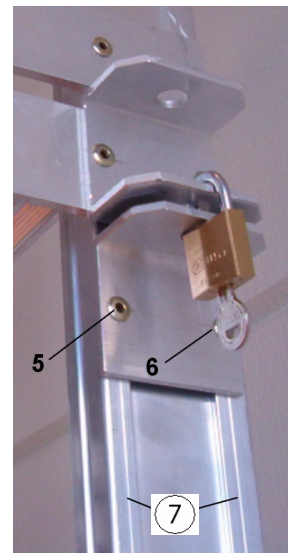

Figure 4
- Close the hoop lock to enable the height of the angle section to be determined (figure 4).